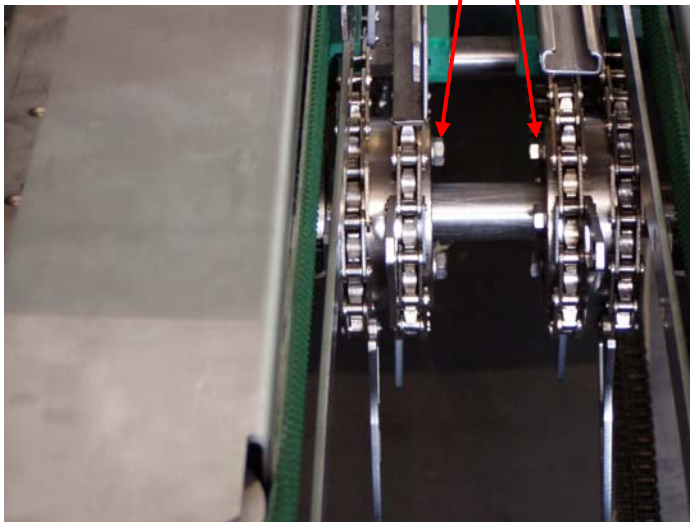

Fig 2.1
1.1. Release the screw on the two sprocket (20) so the inside chain will be free, use key 13mm fig 2.1.
1.3. After set up, tight the two sprockets (fig2.1).